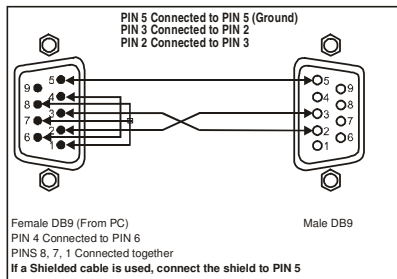

Figure 11: Connecting a PC without using a Null-modem Adapter
- Connect the RS-232 9-pin D-sub port on your PC to the RS-232 9-pin D-sub rear panel port on the **VP-23RC**, as Figure 11 illustrates